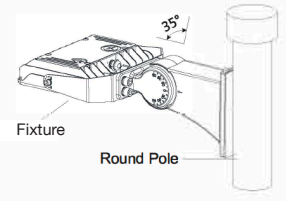

Fig. 5.2
2. Connect bracket to pole with supplied bolt. Connect the input to the power supply. Ensure conductors are protected. Close the access cover and tighten (Fig. 5.2).